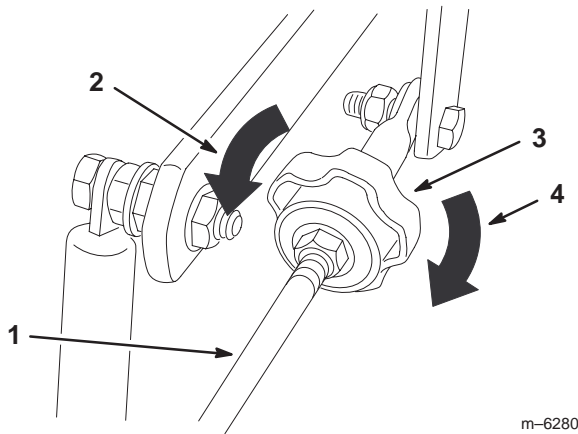

Figure 58
4. To make the machine go right, turn the knob towards the rightside of the machine. Refer to figure 58.
5. To make the machine go left, turn the knob towards the leftside of the machine. Refer to figure 58.